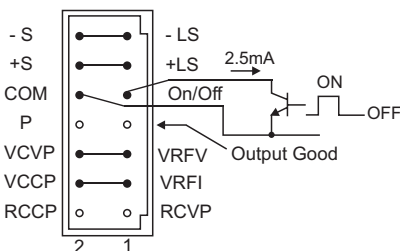
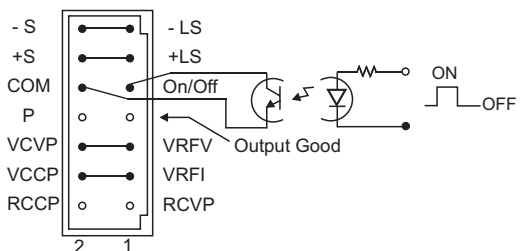

Fig. 4-3: ON/OFF Control, references to - Sense.
Fig. 4-4: Floating ON/OFF Control
Contacts 9, 10 at the rear panel External Control connector (fig. 4-2, item 4) serve as ON/OFF terminals. Either short circuit or TTL '0' level enables the power supply output and open circuit or TTL '1' level disables the power supply's output. An open collector transistor can be used for the ON/OFF control as shown in fig. 4-3, with sink current ability of more than 2.5mA. Please note that pin 10 (COM) is internally connected to the - Sense potential, therefore for floating ON/OFF Control a photocoupler should be used as shown in Fig. 4-4.